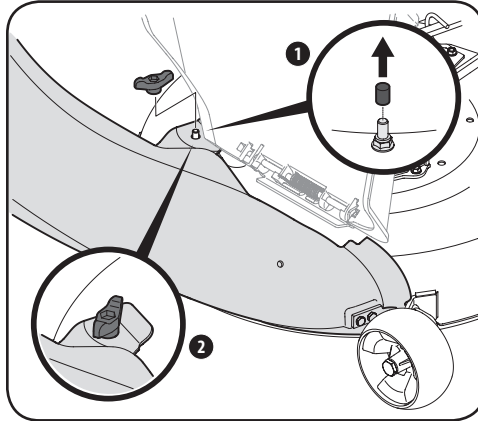

Figure 4-18
3. Secure the chute elbow to the deck using a wing knob (720-04122) from hardware pack 689-00600. See Figure 4-18.
Note: If present, remove the protective cap off of the mounting stud on the mowing deck as shown in the upper inset of Figure 4-18.